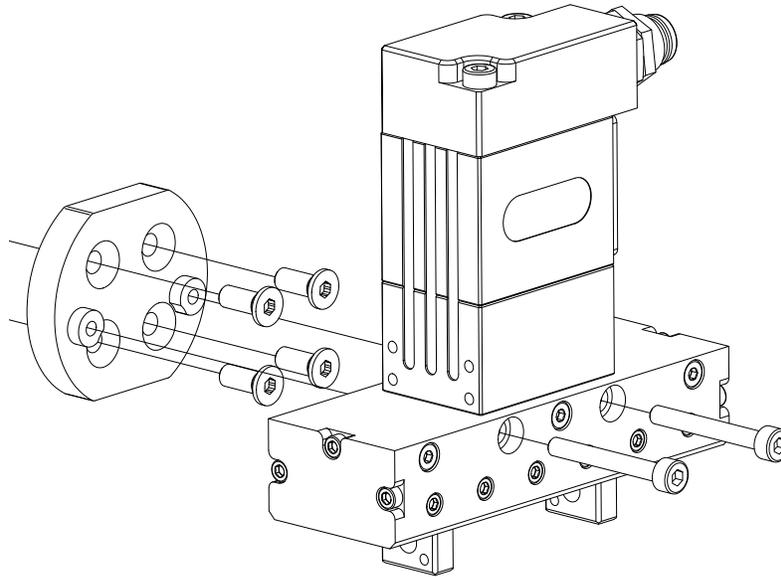

Figure 4: Mounting the MEGP 25LS gripper to the flange of the Meca500
The MEGP 25LS electric gripper is designed and supplied with an assembly kit for only one type of installation (Figs. 4 and 5). If you want to mount the gripper on the flange of the Meca500 in a different way, you need to design and machine your own adaptor plate. Note, however, that if you use a different adaptor plate or if you do not install your gripper in exactly the same manner as shown in Figs. 4 and 5, it is quite possible that the gripper cable will be too short. Therefore, an installation other than the one shown here may limit the range of motion of joint 6 and may result in damage to the gripper and/or the robot.
To install the gripper, switch off the robot, refer to Figs. 4 and 5, and follow these steps:
4. Attach the gripper exactly as shown in Figs. 4 and 5c using the two M2.5X0.45X20 socket head screws provided.